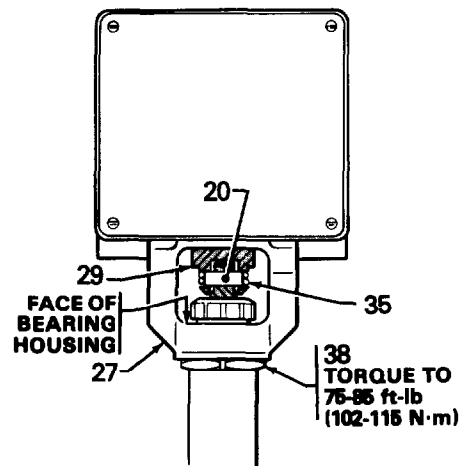

Fig 21
Be sure the retaining spring (35) is firmly in the groove of the connecting rod, *all the way around*, to prevent the pin (20) from working loose due to vibration. See Fig 21.